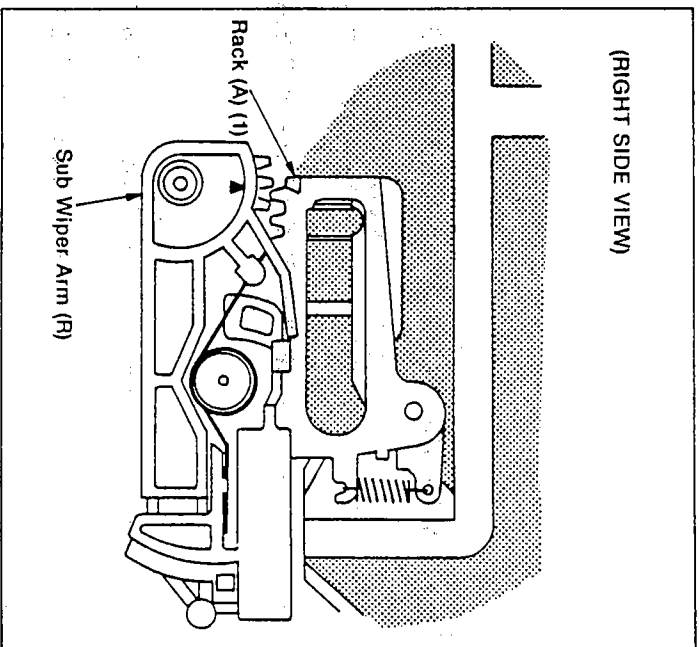

Figure M58
In this position, the arrow on the Rack (A) (1) Unit as shown in Figure M58.